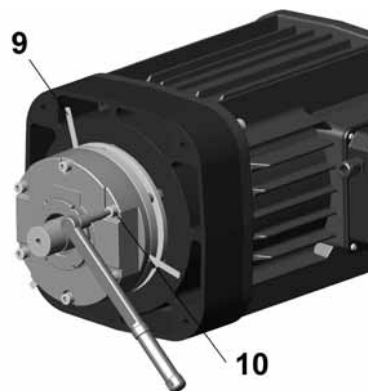

fig. 150
6. Turn the ring 360° (1 complete turn) in anticlockwise direction -8-, considering that one complete turn of the ring causes an axial movement of 1 mm of the brake block -9- (fig. 150).